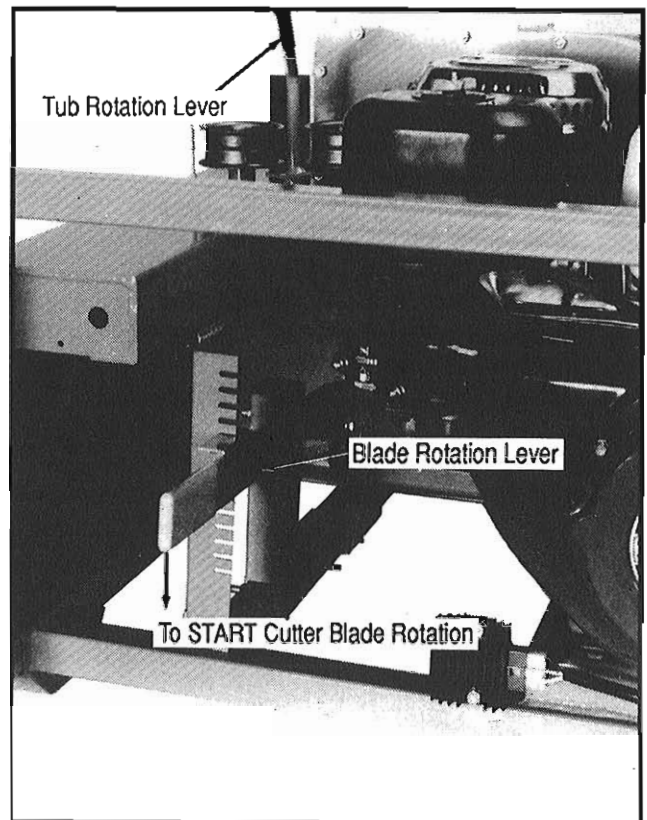

Figure 7. Rotary-Blade Engagement Lever (Self-Powered Model)
Figure 7 shows the location and action of the lever which causes the cutting blades to move. This lever has a locking tab on it, which locks into position in the teeth shown. The lever must be held to the right to release the locking tab, when it is being moved up or down.
1. Make sure all tub and rotor engaging mechanisms are disengaged. See Figures 7 & 8.